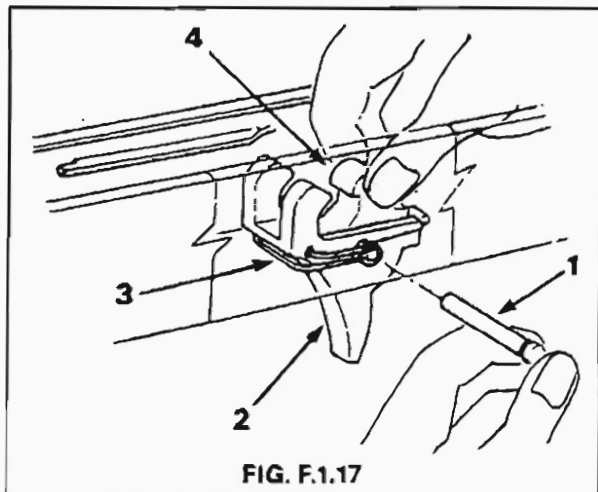

FIG. F.1.17
17. Remove the sear/trigger axis pin and withdraw the trigger, trigger spring, sear and the sear spring through the opening in the rear of the receiver. Take care as the sear will be under pressure from the sear spring which is located between the sear and the trigger. See Fig. F.1.17.